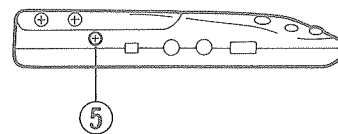

Fig. 5-7
■ Removal of CD door (See Fig. 5-7, 5-8)
3. Remove one screw ⑤ retaining the hinge.
4. Remove the pin joining the CD door and the front cover with each other in the following manner. In short, slide the stopper in the direction of the arrow ① while sliding the pin in the direction of the arrow ②.